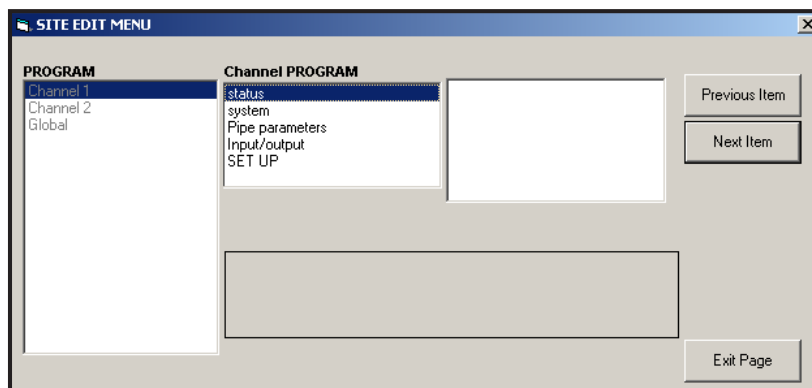

Figure 41: *Site Edit Menu* Window
3. To enter data into the user program, double-click on the *Site Edit Menu*. The window appears similar to Figure 41.
4. To enter a particular menu (Channel 1, Channel 2, or Global), highlight and double-click on the desired menu in the left pane. For example, clicking on Channel 1 in Figure 41 opens the list of options shown in the center pane.
PanaView returns to the Channel PROGRAM menu (see Figure 41 on page 95). Proceed to the System option.
- If you are not using MASS FLOW, PanaView returns to the Channel PROGRAM window shown in Figure 41 on page 95. Proceed to the Pipe option.
PanaView returns to the Channel PROGRAM window shown in Figure 41 on page 95. Proceed to the Pipe option on the next page.